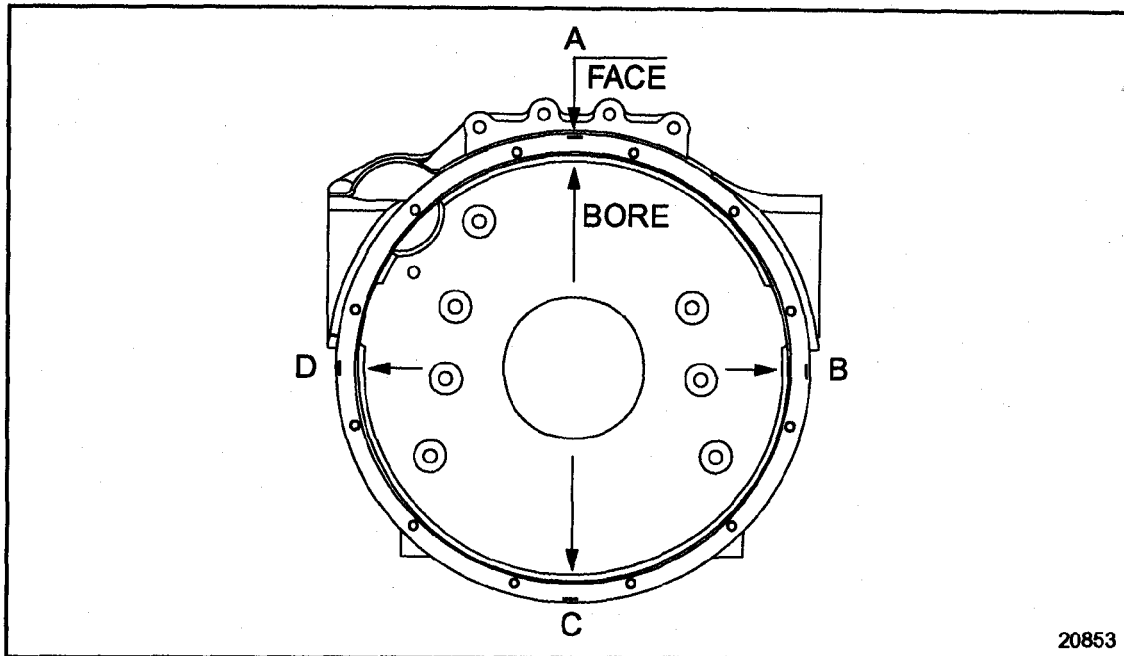

Figure 1-236 Flywheel Housing
6. Bar the engine and rotate the crankshaft one complete revolution, taking readings at 90 degree intervals (four readings each for the bore and bolting flange face). See Figure 1-236.